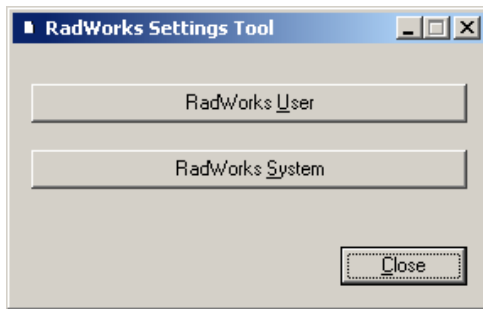

Figure 10-8 RadWorks Settings Tool
- 1.) Click on “RadWorks System” see Figure 10-8.